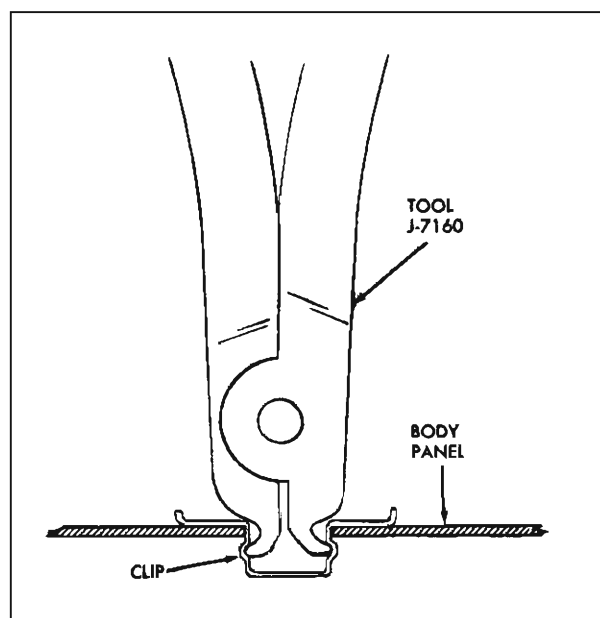

Fig. 15-1 Installing Clip
2. To install new clip, insert clip in hole in outer panel and secure using Molding Retainer Clip Installer J-7160 (Fig. 15-1).